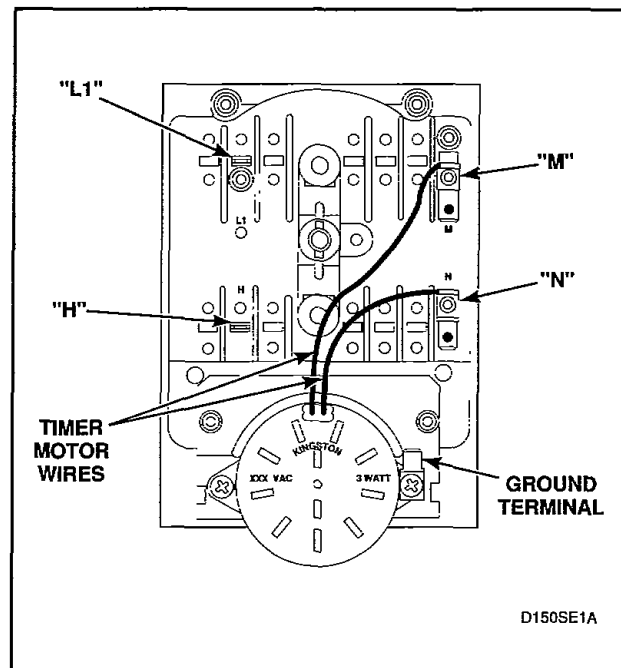

Figure 53
- Disconnect wires from timer, *Figure 53*, except timer motor wires.